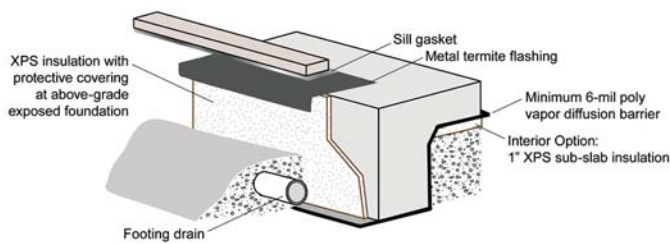

Figure 2 – Insulated slab.
- Slab-on-grade foundation insulation (perimeter or below slab). (See Figure 2.)